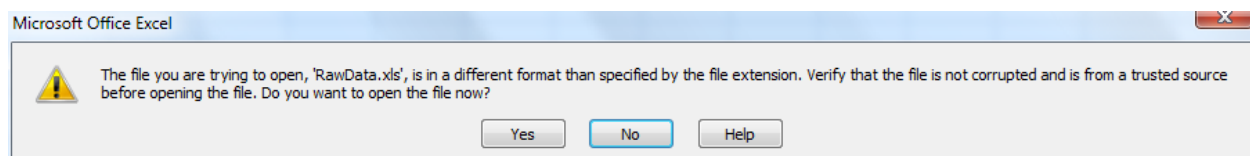

FIGURE 3.15. CLICK ON YES BUTTON TO OPEN 'RAWDATA.XLS' FILE.
3.1. Open the **RawData.xls** file in Microsoft Excel software. If a control window pops up asking for confirmation to open the file, such as in Figure 3.15, click on the **Yes** button.